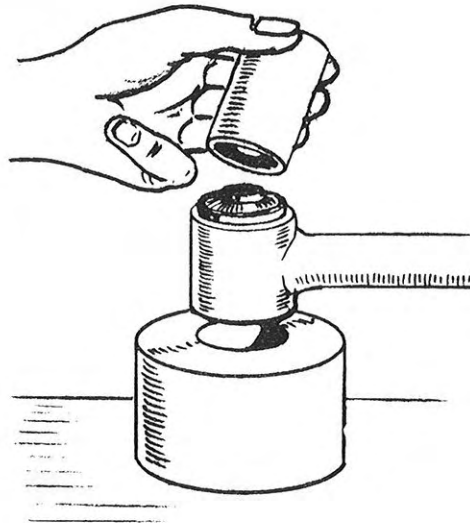

Fig. 29. Pressing out side link rubber bushing
13. When pressing out the rubber bushings, use tools 93-134 and 93-135, see Fig. 29 and 31. The bracket must be removed before pressing out the front bushings from the side links.